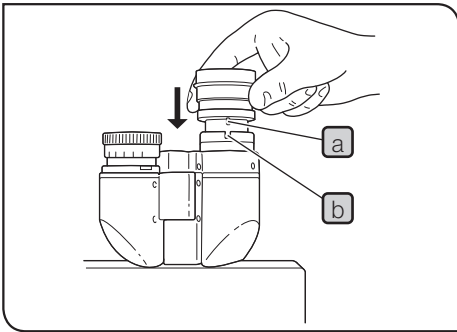

Fig.45
**6 Attaching the eyepieces (Fig.45)**